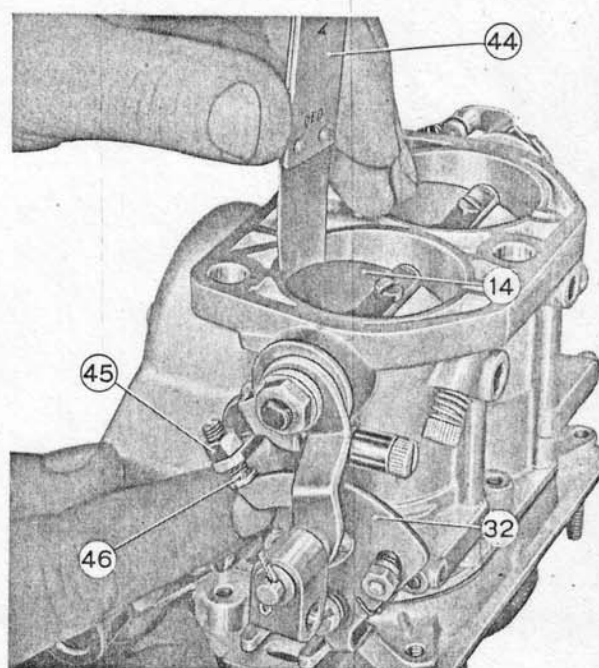

Fig. 33. - Adjusting « fast idle » device.
- set the lobe (32, fig. 33) as shown in figure;
- work on screw (46) and bring it in touch of lobe (32), then secure the screw by the nut (45);
- without releasing the lobe, insert feeler gauge (44) between the carburetor body and the throttle: a clearance of .0039" (0.10 mm) should be found. Otherwise, the screw (46) must be adjusted.